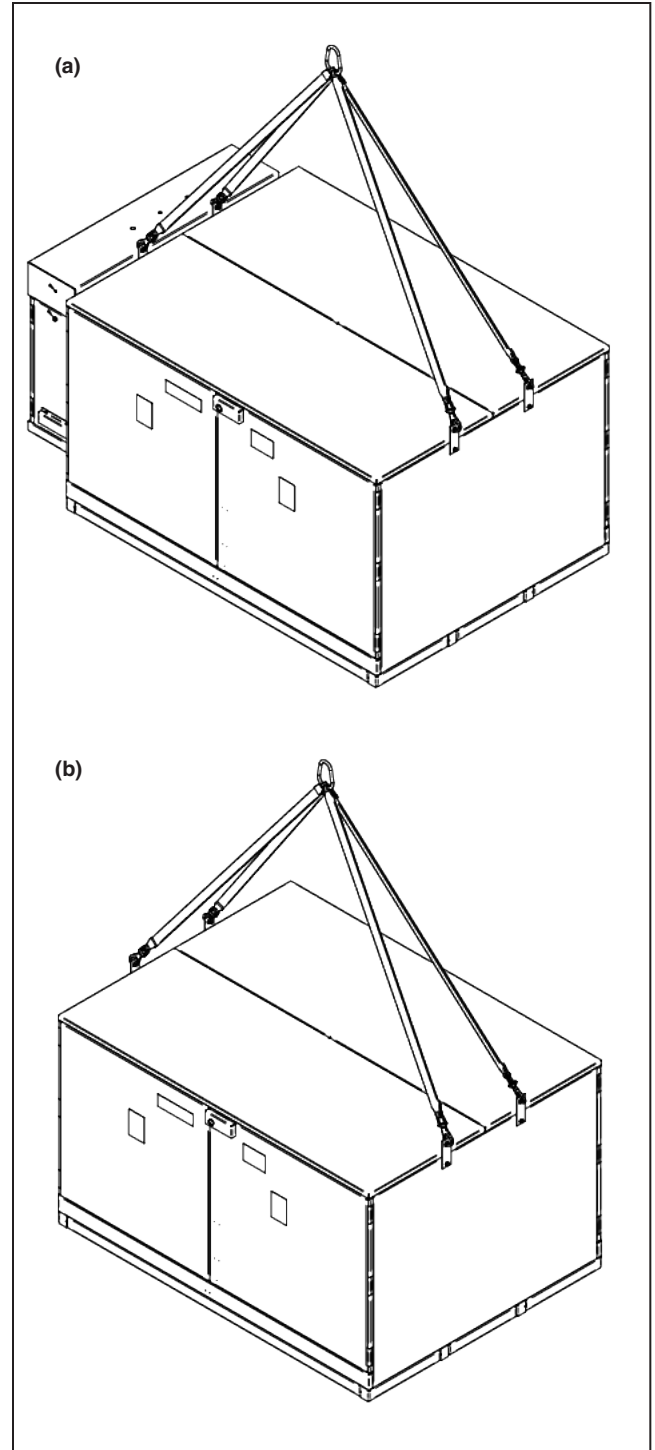

Figure 2. (a) Hoisting the gear with a low voltage enclosure. (b) Hoisting the gear without a low voltage enclosure.
STEP 1. Use 7-foot (213-cm) or longer hoist slings of equal length to prevent damage to the gear during lifting. See Figure 2.